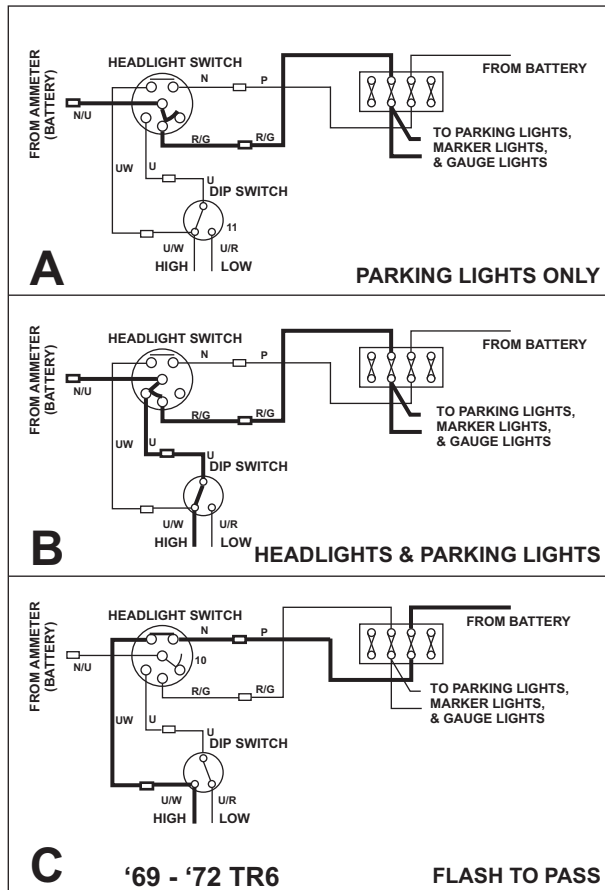
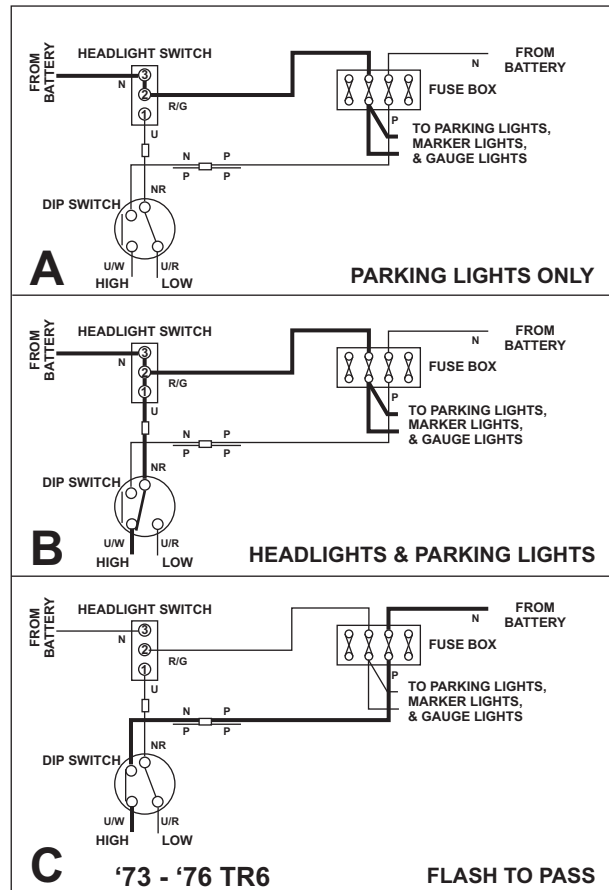

FIGURE 4
FIGURE 5
**Figures 4 and 5**, next page, depict the basic operation of the headlight circuits in the TR6 models. **Figure 4** is for the earlier models, while **figure 5** is for later models. The TR250, although very similar, differs in the operation of the "flash-to-pass" feature. This difference will be discussed later, after the TR6 operation has been covered.